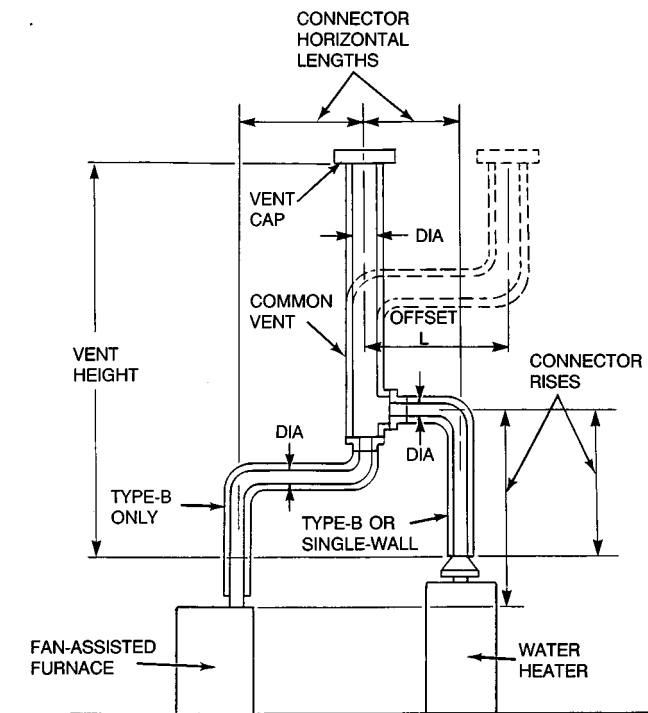

Fig. 1—Use With Tables 1, 2, 12, and 13
4. A vent or chimney may be offset as noted in the second table below and as shown in Fig. 1, 2, 6, 7, or 8.
**NOTE:** Use as shown in Fig. 1, 2, 5, 6, 7, and 8.